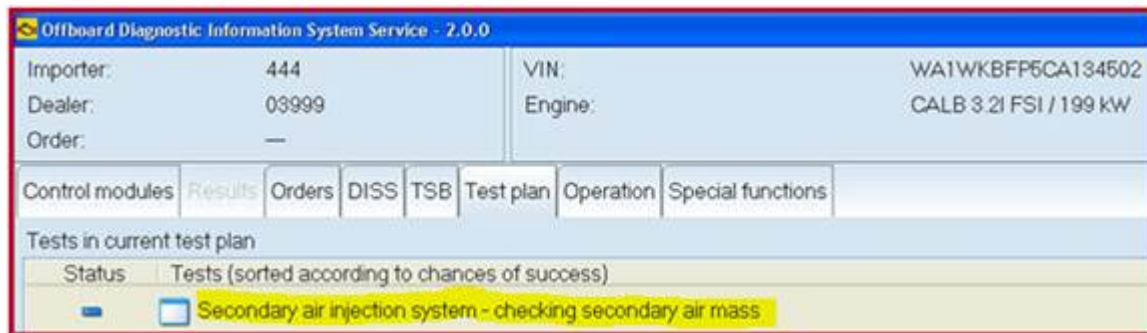

Figure 2. Message on ODIS tester.
1. In the ODIS tester (minimum ODIS 2.0.1 / 19.52), click on the “Secondary air injection system - checking secondary air mass” message to follow the test plan (Figure 2).